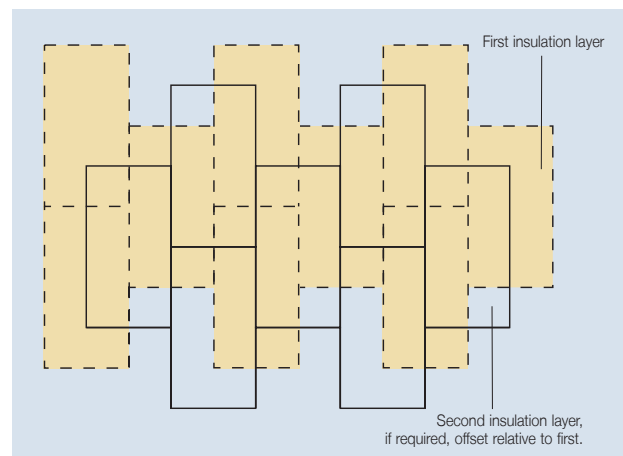

Figure 7 Offsetting of Multiple Insulation Layers
- In all cases, the layers should be horizontally offset relative to each other so that, as far as possible, the board joints in the two adjacent layers do not coincide with each other (see Figure 7).